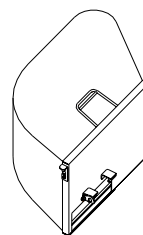

FIG2
- Grass catcher: 100L, see FIG2